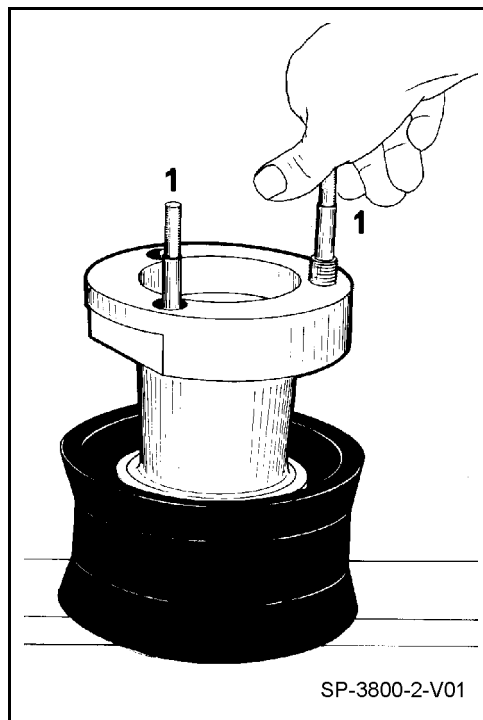

Fig. 199
- Screw two assembly aids (1) (**Fig. 199**) into the pumping piston.